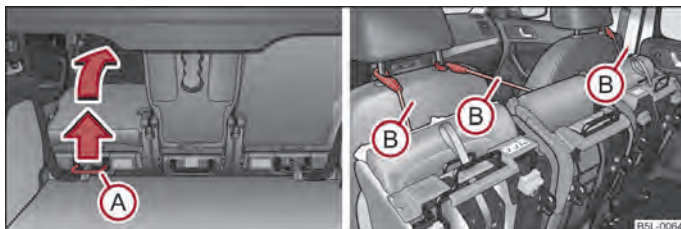

Fig. 51 Fold seat forward/secure folded forward seats
- Pull the lever → fig. 51 up and then fold the seat fully forwards.
- Secure the folded forward seat with the aid of the fixing belt (B) to a guide rod of the head restraint for the front seat → fig. 51.